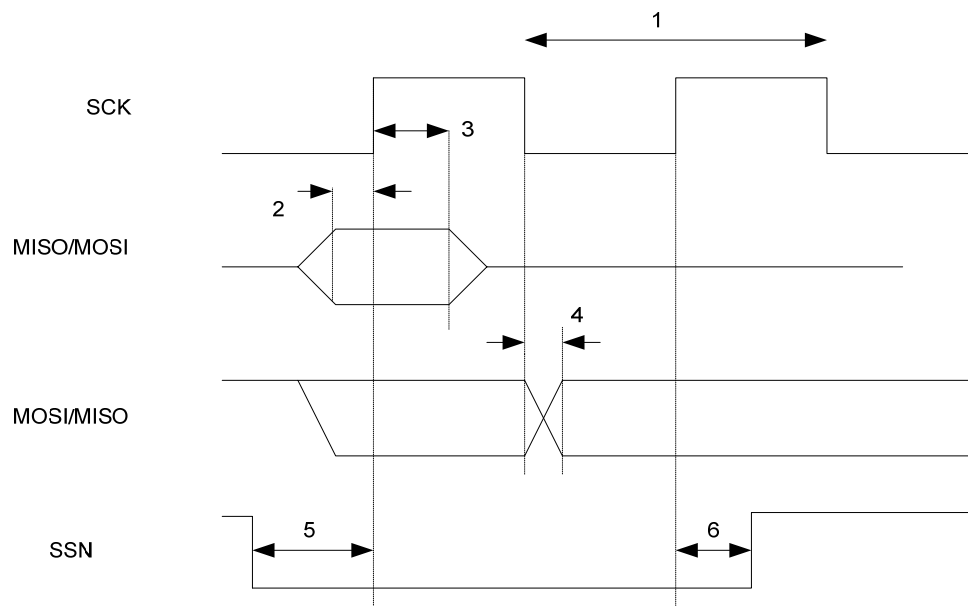

Figure 5: SPI AC Characteristics
| SCK period | | See Section 13.14.3 | | ns | Master. See item 1, Figure 5 |
| SSN low to SCK | $2 \cdot t_{\text{SYSCLK}}$ | | | | See item 5, Figure 5 |
| SCK to SSN high | 30 | | | ns | See item 6, Figure 5 |
| MISO setup | 10 | | | ns | Master. See item 2, Figure 5 |
| MISO hold | 10 | | | ns | Master. See item 3, Figure 5 |
| SCK to MOSI | | | 25 | ns | Master. See item 4, Figure 5, load = 10 pF |
| SCK period | 100 | | | ns | Slave. See item 1, Figure 5 |
| MOSI setup | 10 | | | ns | Slave. See item 2, Figure 5 |
| MOSI hold | 10 | | | ns | Slave. See item 3, Figure 5 |
| SCK to MISO | | | 25 | ns | Slave. See item 4, Figure 5, load = 10 pF |